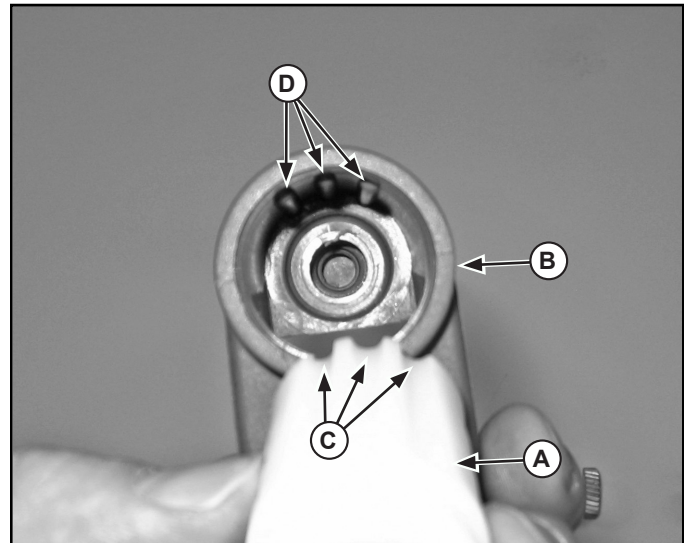

Figure 11. Safe Operation Switch.
3. If the blade cartridge was removed during gear removal it will be necessary to align the collar (A) to the head (B). Rotate the grooves (C) so they align with ridges (D) and slide collar (A) into head (B). See Figure 11.